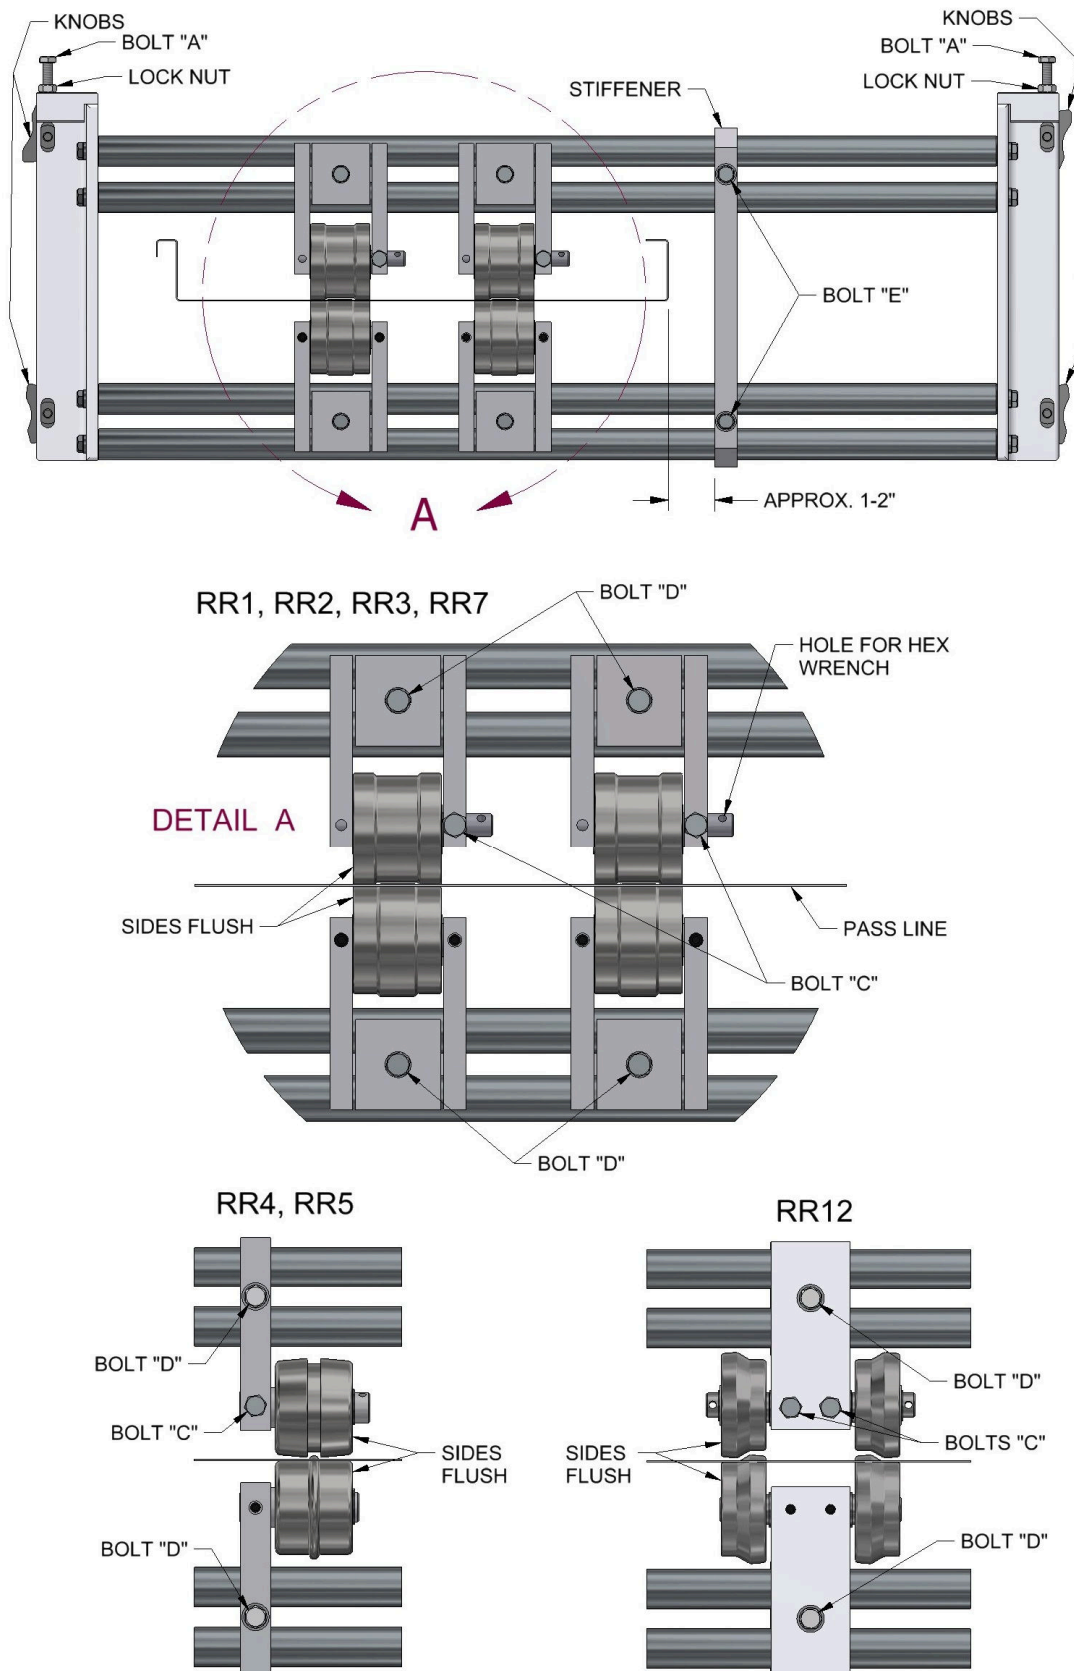

Figure 42: Bead Roller Assembly
1. The Bead Roller Assembly (Figure 42) is located behind the shear and is accessed by removing Top Cover #5. These rollers can be engaged or disengaged as needed and can also be moved left or right to accommodate different panel widths.